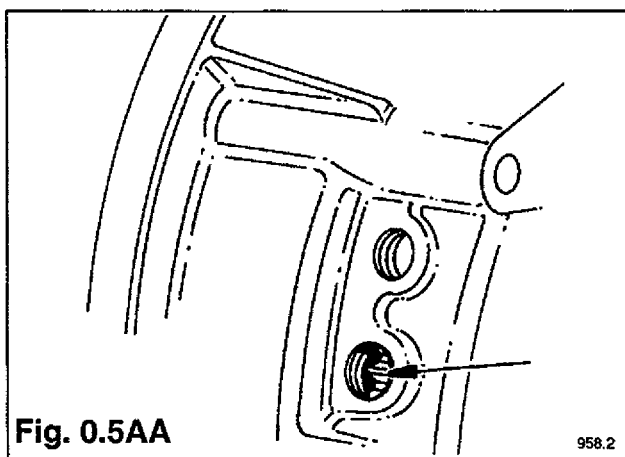

Fig. 0.5AA
The magnetic pick-up is fitted in the flywheel housing, close to the teeth of the starter ring gear (see **Fig. 0.5AA**), and should be fitted as follows:-
- 1 Turn the engine until the top or crest of a gear tooth is in the centre of the pick-up head location diameter (see **Fig. 0.5AA**).
(Fig. 0.5AA)